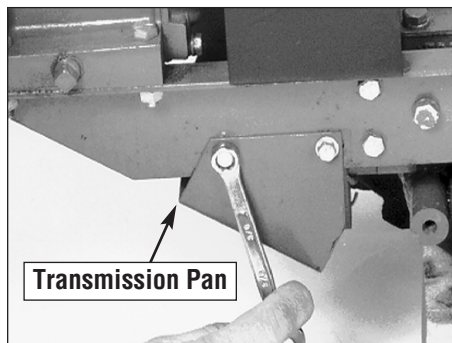

Figure 1
3. Remove the screw that attaches the forward end of the transmission pan to the frame rail (Figure 1). Keep this screw in case you remove the frame weights at a later time.